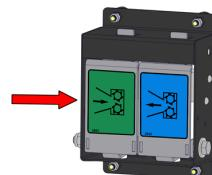

Figure 12 - Forward Feed Control
4. Press the **GREEN** Forward Feed Control (Figure 12).